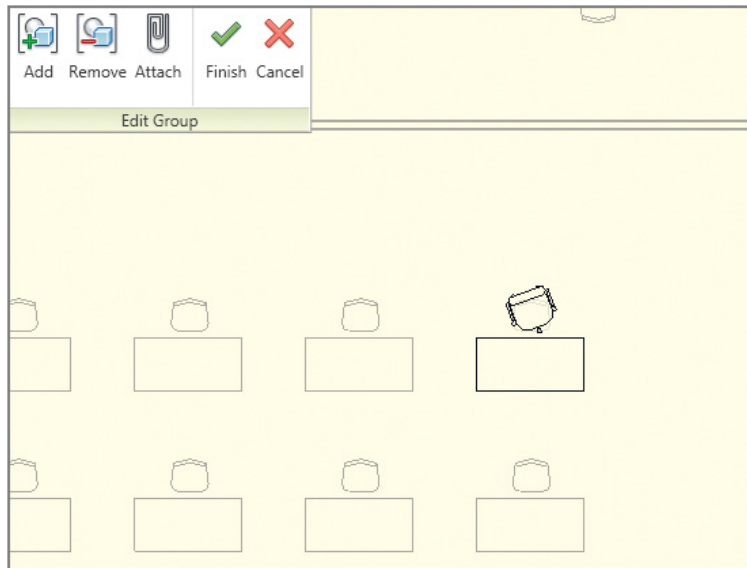

FIGURE 1.40 The view window enters a temporary group-editing mode.
4. Rotate the chair 20 degrees using the Rotate tool (Figure 1.40).